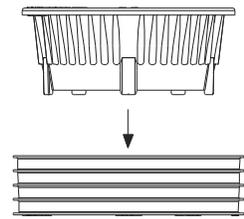

Fig. 7
4. Pull external gasket down from the plastic body. See Fig. 7